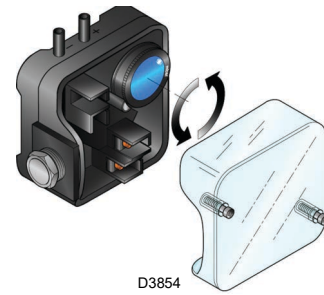

Fig. 25
- Adjust the air pressure switch (Fig. 25 on page 26) to the start of the scale.
Adjust the air pressure switch after performing all other burner adjustments with the air pressure switch set to the start of the scale (Fig. 25).